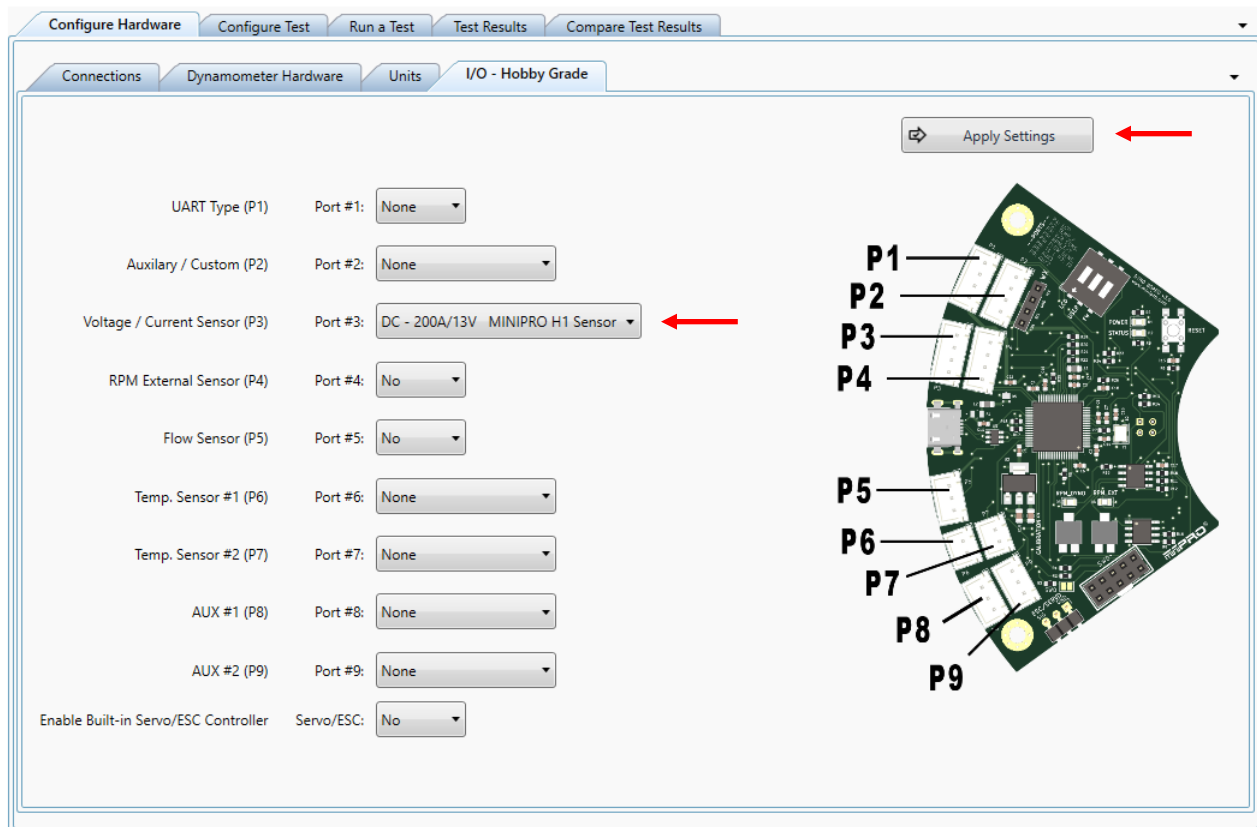

Figure 9: H1 Sensor - I/O Configuration
5. Select the Voltage and Current sensor from Port #3 or #9 drop-down option (see Figure 9).